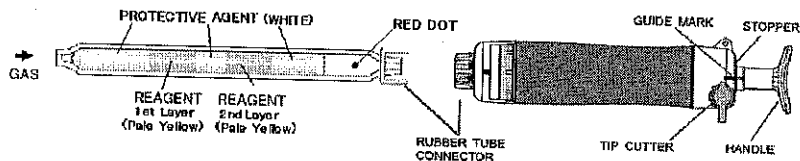

Fig.1
- ② Insert the end of the detector tube marked with red dot into the aspirating pump securely as shown in Fig.1.
- ③ Align the guide marks on the shaft and stopper of the aspirating pump.
- ④ Pull the pump handle at a full stroke until it locks and wait for 30 seconds